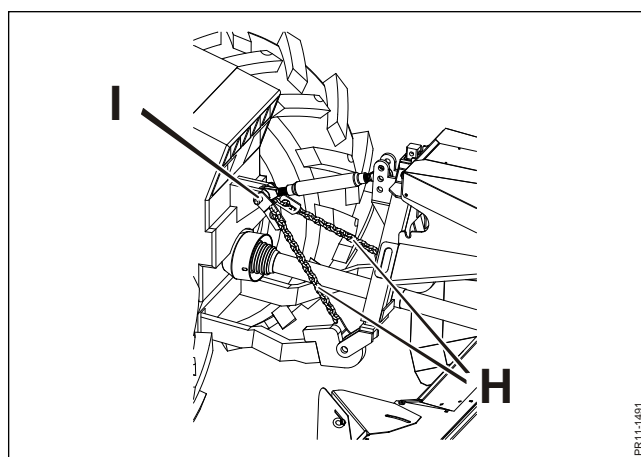

Fig. 2-5
**Fig. 2-5** The upper end of the limiting chains H is fastened at the top link fix point on the tractor with the pin I (from the spare parts package). The other end of the chains is fastened to the two link arms.